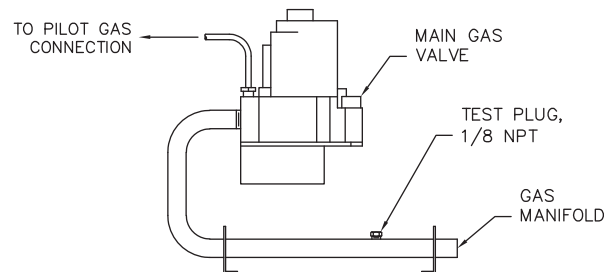

Figure 5.2: Gas Train Manifold
8. Typical gas train manifold is illustrated in Figure 5.2.